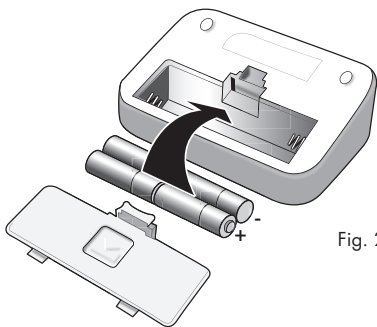

Fig. 2
2. Insert or replace 4 AA batteries into the battery compartment, ensuring to match the indicated polarity symbols, Fig 2. Always use new batteries.